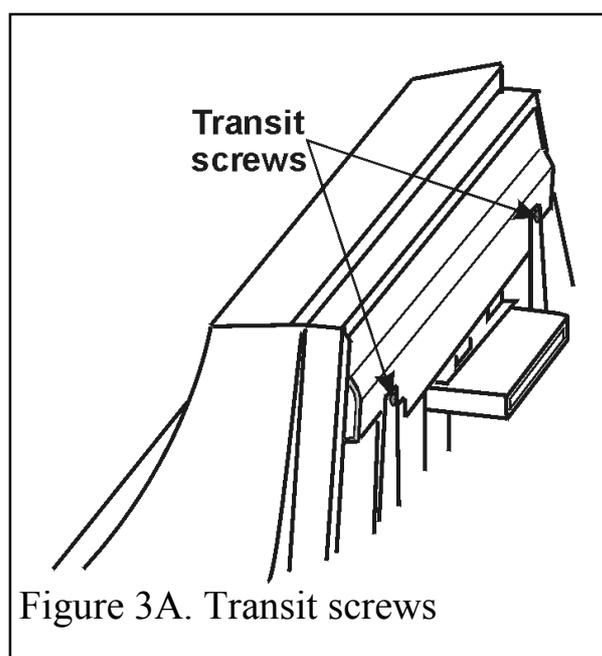

Figure 3A. Transit screws
3.3.2 Remove two transit screws from the upper back panel. See figure 3A.